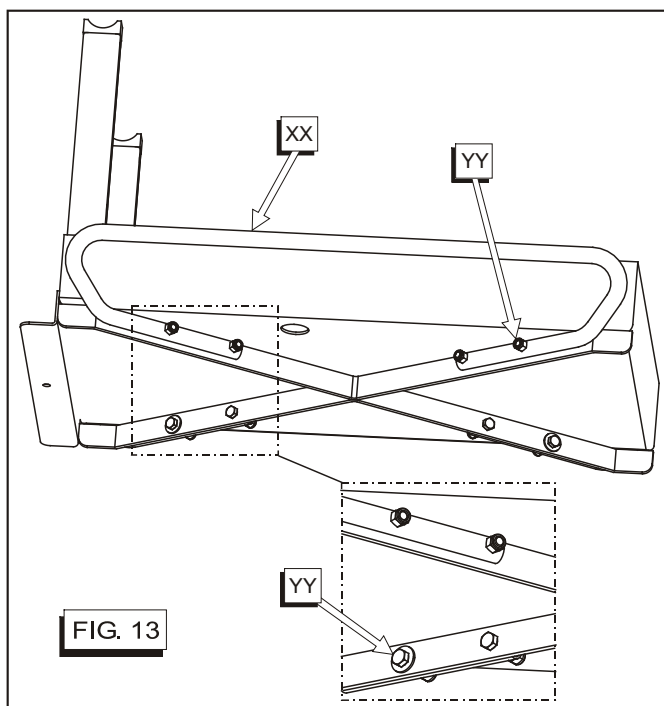

FIG. 13
- Attach the Lifting Handles (XX) as shown in FIG. 13 using the Mounting Hardware (YY) that is provided. Mount the hardware with the nuts toward the outside of the frame and the capscrews toward the inside of the frame. This will simplify mounting the saw on the Optional Stand. Four washers are to be assembled over the "slots" in the frame. Four of the eight washers are not required, but can be used if desired over the remaining holes. **Tighten the hardware securely.**